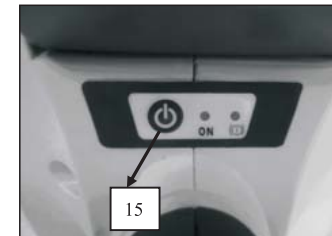

Fig.5A
Press start button (15) when "ON" turn on green light and press trigger lock-out (10) on the rear handle and also press switch trigger (11). (Fig.5A/B)